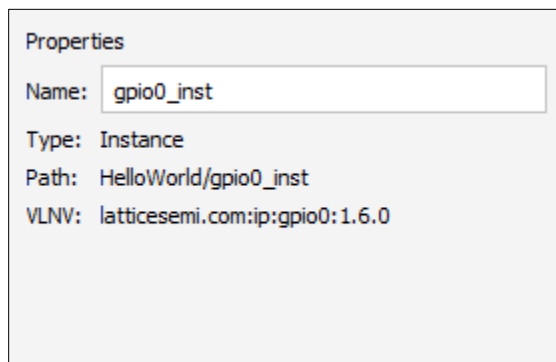

Figure 2.75. Object Properties
1. Select the object from List view of the Design View. Information of the selected object is shown in the **Properties** area (Figure 2.75).